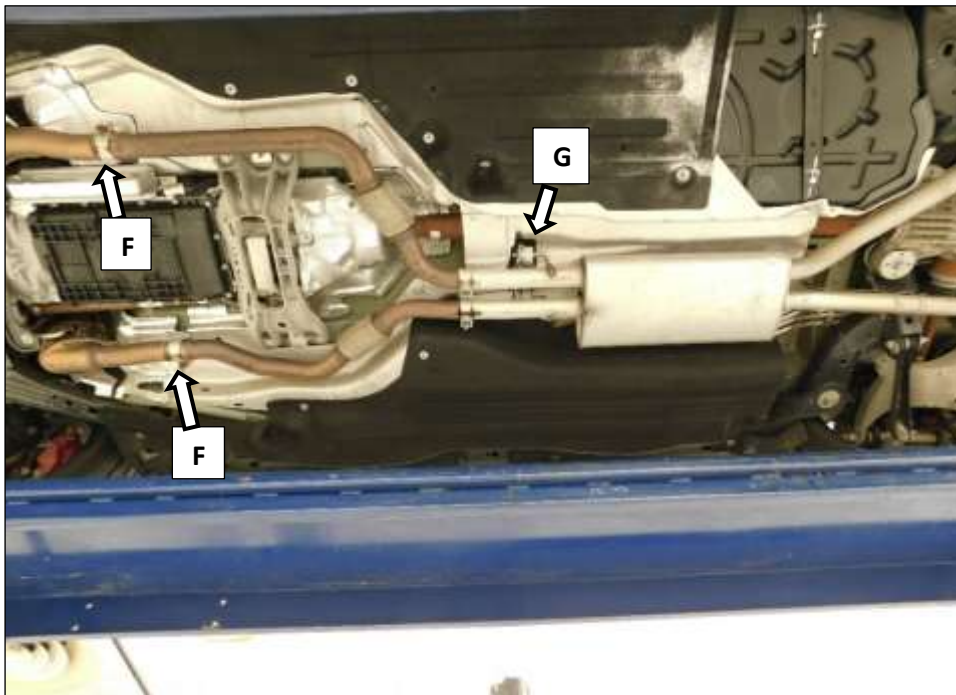

Figure 4
6. Remove the center resonator and mid pipe assembly by sliding the assembly rearward, until the hanger rods are clear of the isolators (**G**) and the mid pipes are clear of the catalytic converter pipes. **Fig.4**